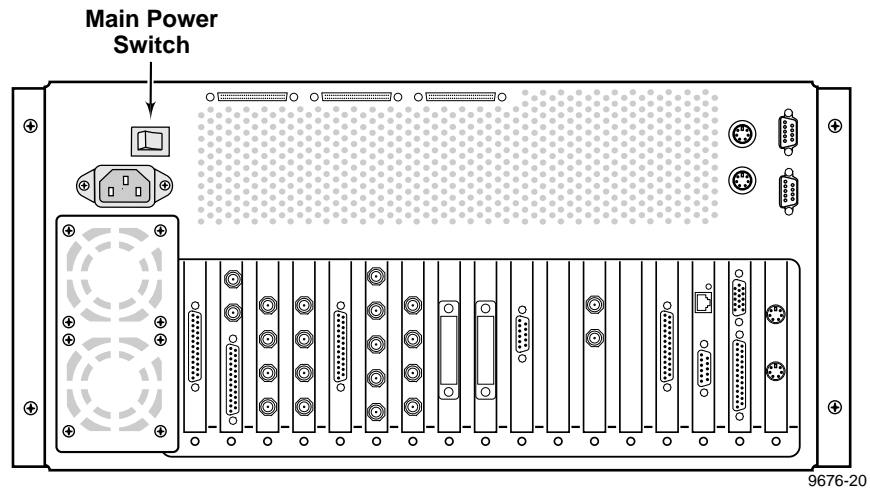
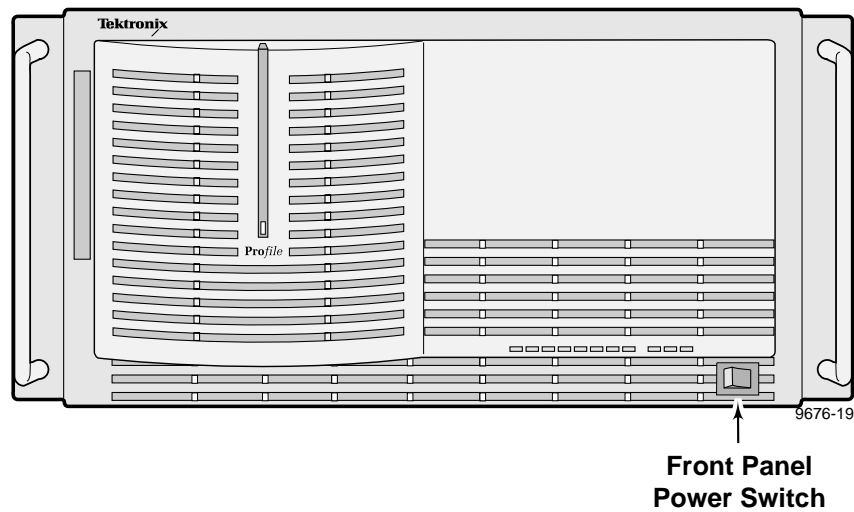

Figure 3-1. Rear Panel Main Power Switch
Figure 3-2. Front Panel Power Switch
See Figure 3-1 for the location of the main power switch on the rear panel and Figure 3-2 for the Profile Video File Server front panel switch. To turn Profile system power On:
6. On the rear panel of the Profile Video File Server (see Figure 3-1), turn the main power switch to **1 (On)**.
7. On the front panel of the Profile Video File Server (see Figure 3-2), turn the power switch to On.